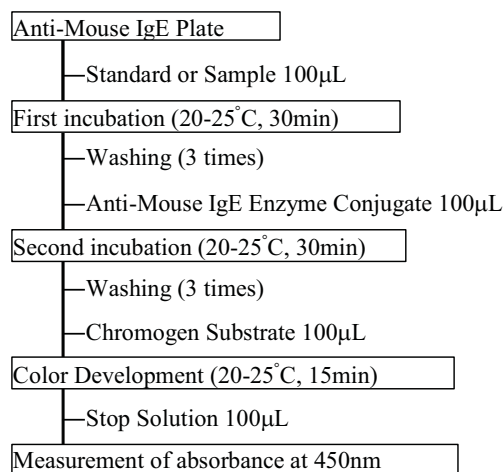

Fig.1 Flow chart of the assay procedure
D. Standard Procedure for the Assay (Fig.1)